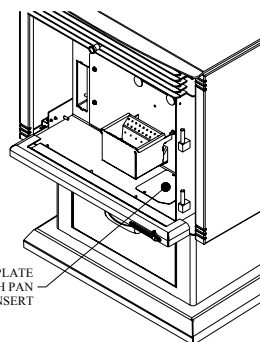

Figure 44
- Periodically remove and empty the ash drawer (see Figure 44 & 45) below the ash lip. Dispose of ashes properly. (See "ASH REMOVAL" above)